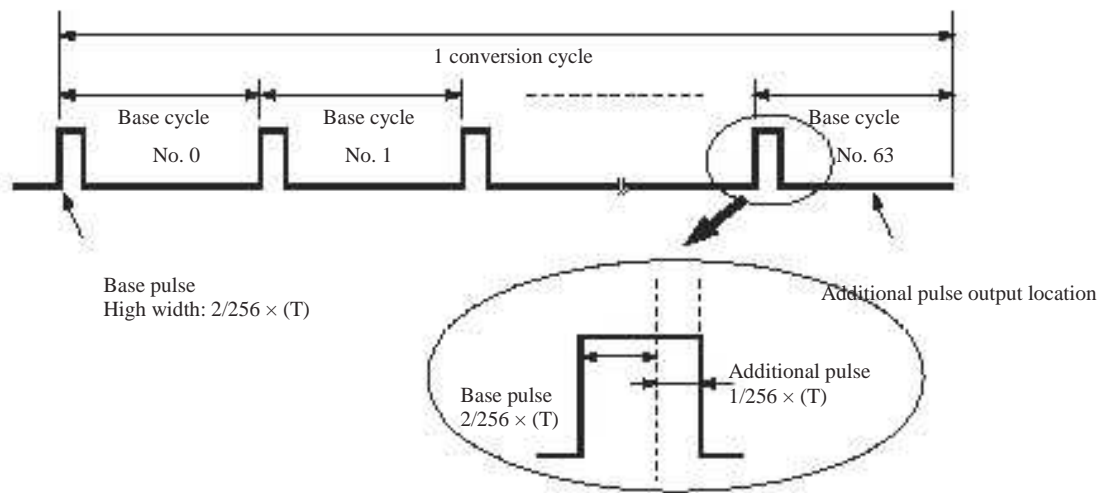

Figure 10.6 Output Waveform when DADR = H'0207 (OS = 1)
In this example, DADR = H'0207 (B'0000 0010 0000 0111). The output waveform is shown in figure 10.6. Since CFS = 1 and the value of the upper eight bits is B'0000 0010, the high width of the base pulse duty cycle is $2/256 \cdot (T)$.